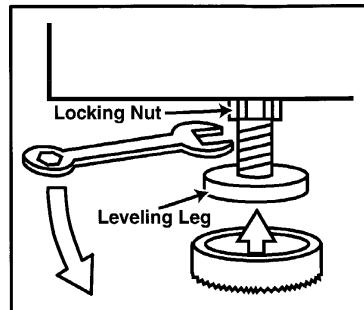

Figure 1-3
2. Tip washer slightly forward. Loosen rear leveling leg lock nuts. Tip washer back slightly to loosen front leveling leg lock nuts (*Figure 1-3*).
5. Install the rubber feet, found in the installation package, on all four (4) legs (Figure 1-3).